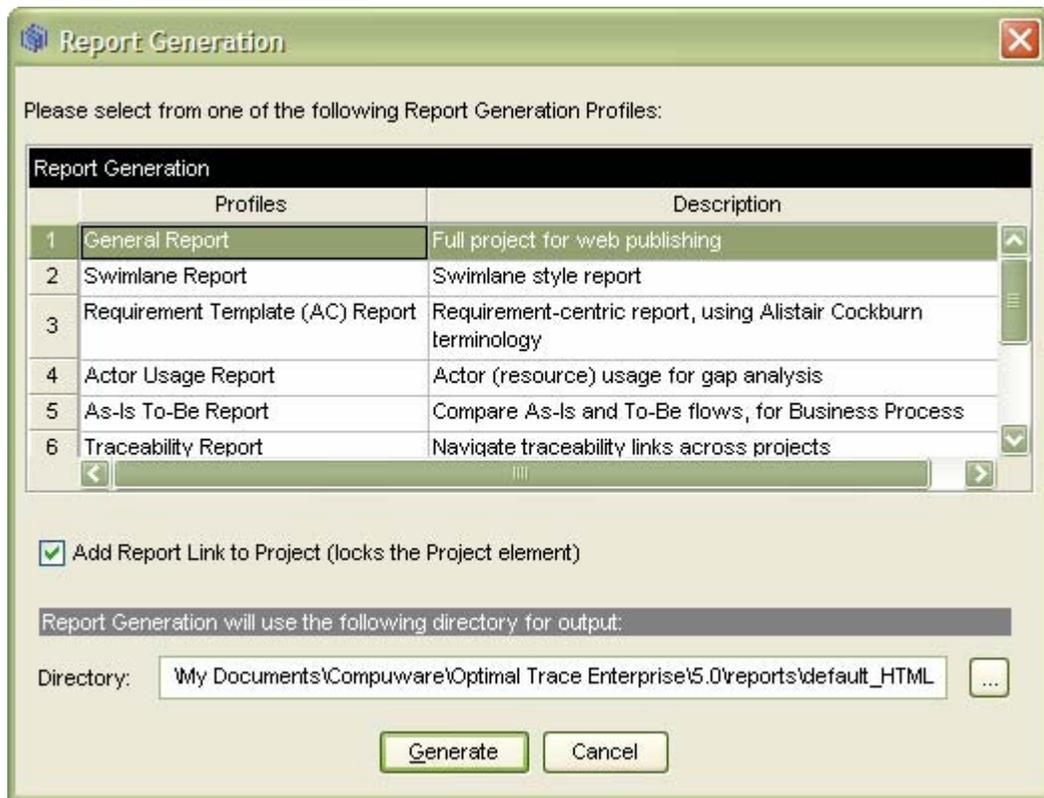

Figure 60 – Report Generation screen
- Click on Generate Reports, and the screen shown in Figure 60 below will appear; see Table 9 below, for details.